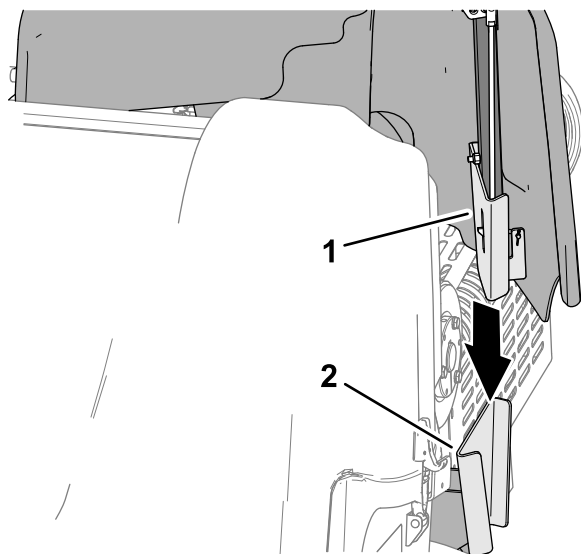

Figure 144
1. Align the mount bracket of the belt cover with the cover-support bracket of the machine frame (Figure 144).